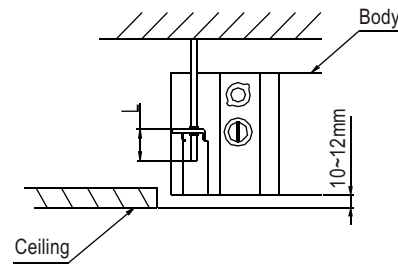

Fig.1-4
- Adjust the position to ensure the gaps between the body and the four sides of ceiling are even. The body's lower part should sink into the ceiling for 10~12mm. (Refer to Fig.1-4)
- In general, L is half of the screw length of the installation hook. (Refer to Fig.1-4)